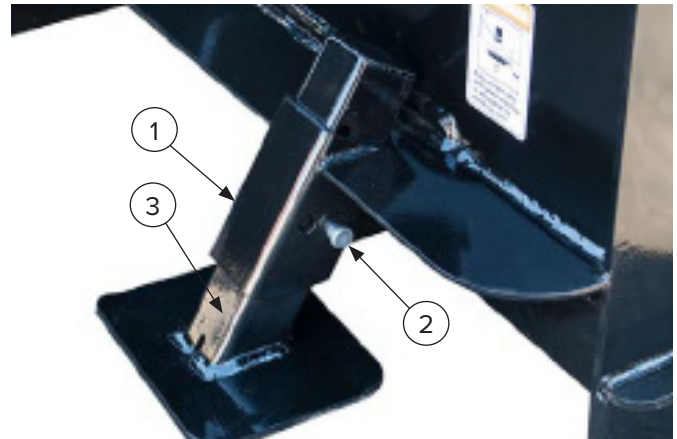

Figure 12
5. Remove the retaining pin (Items 1 and 2) [Figure 12] and the skid pad (Item 3) [Figure 12].
Remove the retaining pin (Items 1 and 2) [Figure 12] and adjust the skid pad (Item 3) [Figure 12] to the desired height and install pin and retaining pin.